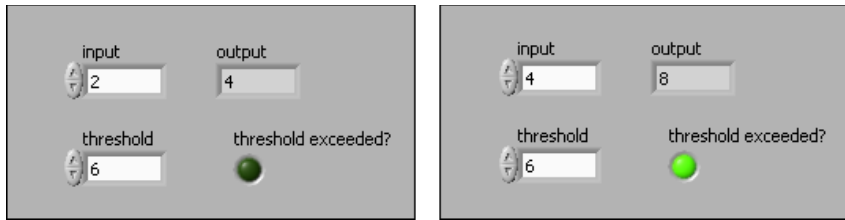

Figure 4. LED Lights when Output Exceeds Threshold
4. Enter different values in the **input** numeric control. In Figure 4, the **output** value on the left does not exceed the **threshold** value. If you change the **input** value so that the **output** value is greater than the **threshold** value, the **threshold exceeded?** LED lights.